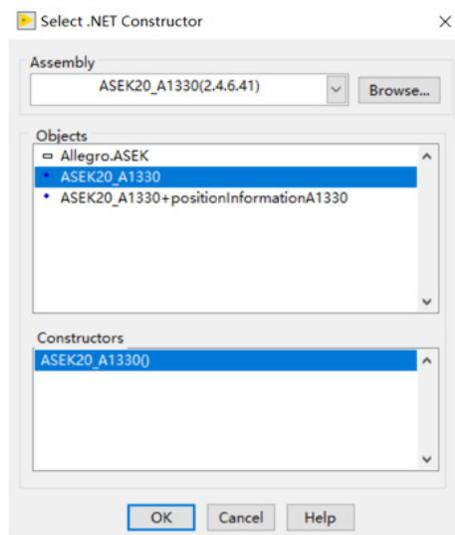

Figure 5
2. Drag the constructor node to the VI window. A "Select .NET Constructor" window will appear. Choose the Assembly Menu as 'ASEK20_A1330', Objects Menu as 'ASEK20_A1330', Constructors Menu as 'ASEK20_A1330()', and then click 'OK' button, as shown in Figure 5.